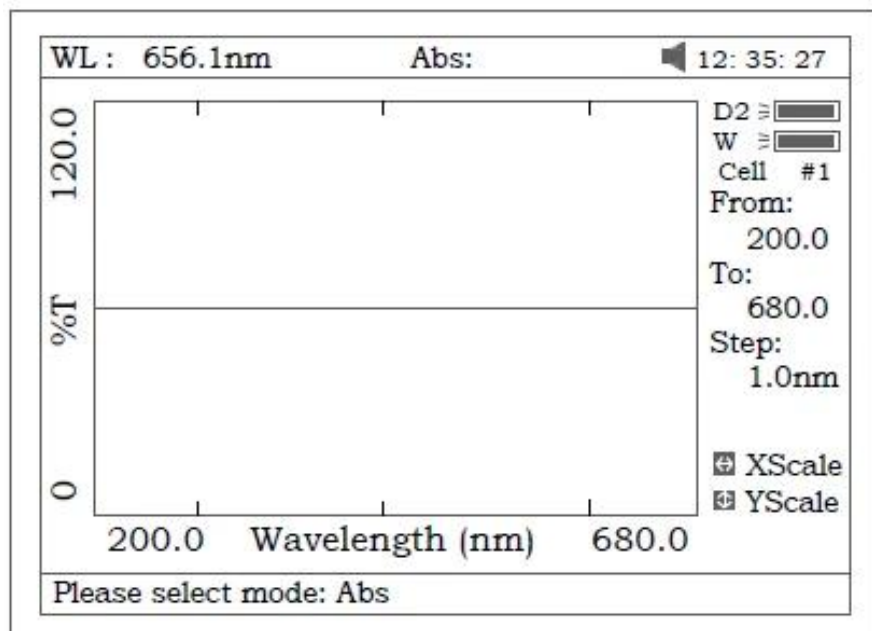

Figure 43
2. Press **F2** to select the test mode, "Abs", "%T" or "E" (Fig 43).